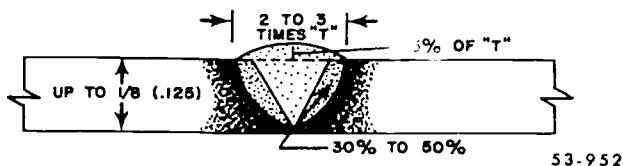

Figure 3-26. Butt joint specifications (steel sheet).
*Butt joint weld requirements.* The welds shown in figures 3-26 and 3-27 illustrate the requirements for butt joints on steel plates with a thickness of 3/16 inch and over. The width of the fusion zone for thick plates is governed by the way in which you prepare the joint. When you bevel the edges, the weld should be approximately 1/8 inch wider than the included angle of the bevel. The depth of fusion in the beveled edges of the joint should be at least 1/16 inch. A height of reinforcement of 1/8 inch is usually sufficient for heavy plate. The penetration for butt welds must be 100 percent, regardless of the thickness of the plate. For double-edged penetration, you obtain 100 percent of penetration from each side to produce the required full base metal penetration.